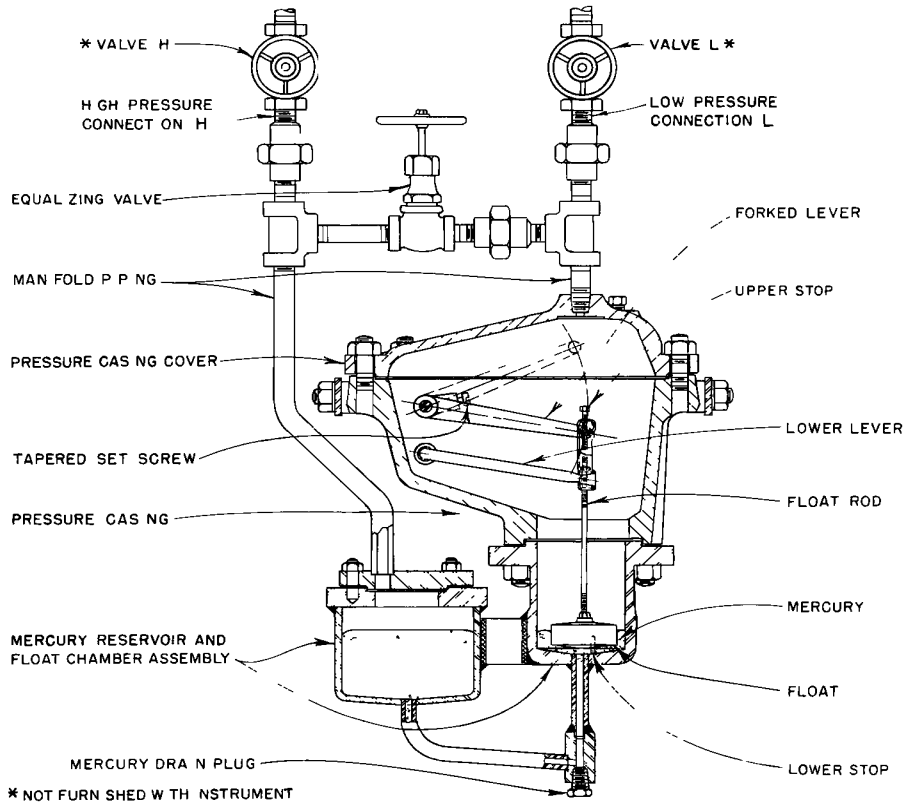

FIGURE 1 Type LU Level Mechanism
4. To clear pressure casing passages (Figure 1), remove mercury drain plug and blow compressed air thru lower passages. Replace plug and tighten securely.
b. Position cover gasket in recess of pressure casing (Figure 1).
a. Open equalizing valve (Figure 1)
1. To remove instrument from service, close valves H and L and immediately open equalizing valve (Figure 1).
1. Close instrument valves H and L and open equalizing valve (Figure 1)